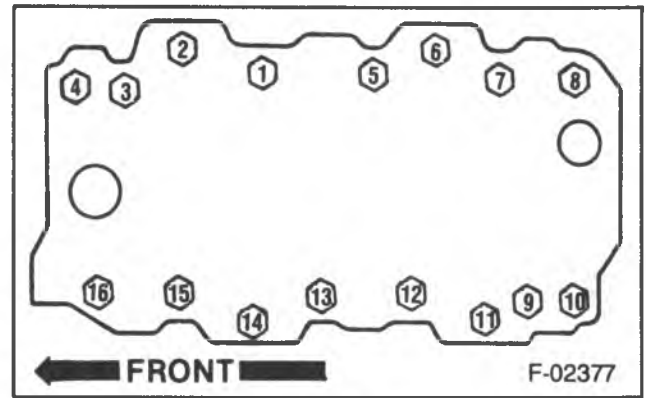

Figure 6 — Intake Manifold Tightening Sequence
Install or Connect (Figure 6)
- Bolts to 40 N·m (30 ft. lbs.). Use the tightening sequence shown in Figure 6.